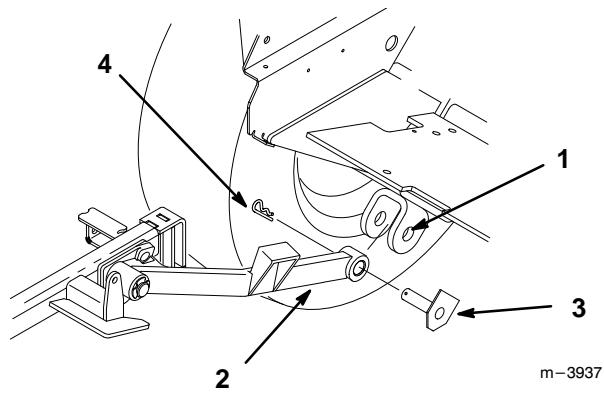

Figure 9
9. Remove hairpin cotters and pivot pin assemblies securing push arms to traction unit pivot brackets (Fig. 9).